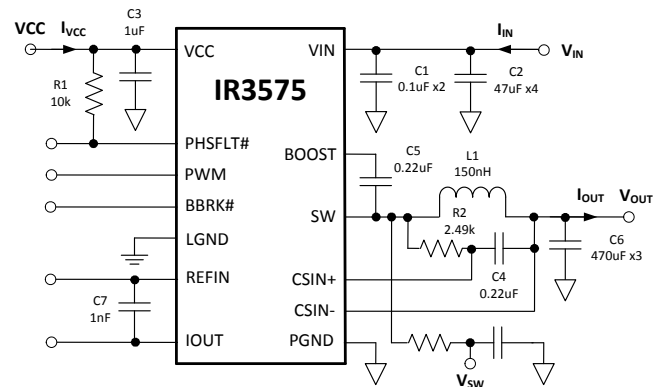

Figure 32: IR3575 Power Loss Measurement
Circuit of Figure 32,  $V_{IN}=12V$ ,  $V_{OUT}=1.2V$ ,  $f_{SW} = 400kHz$ ,  $L=150nH$  (0.29mΩ),  $V_{CC}=7V$ ,  $T_{AMBIENT} = 25^{\circ}C$ , no heat sink, no air flow, 8-layer PCB board of 3.7" (L) x 2.6" (W), no PWM controller loss, no inductor loss, unless specified otherwise.
Circuit of Figure 32,  $V_{IN}=12V$ ,  $V_{OUT}=1.2V$ ,  $f_{SW} = 400kHz$ ,  $L=150nH$  (0.29mΩ),  $VCC=7V$ ,  $T_{AMBIENT} = 25^{\circ}C$ , no heat sink, no air flow, 8-layer PCB board of 3.7" (L) x 2.6" (W), no PWM controller loss, no inductor loss, unless specified otherwise.
The single-phase IR3575 efficiency and power loss measurement circuit is shown in Figure 32.